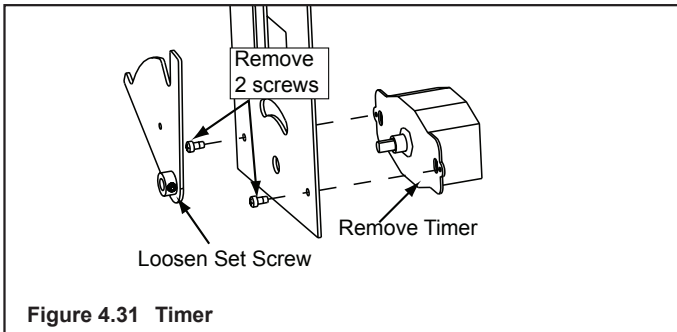

**Figure 4.31 Timer**
7. Loosen set screw on timer, remove two screws and remove timer. See Figure 4.31.